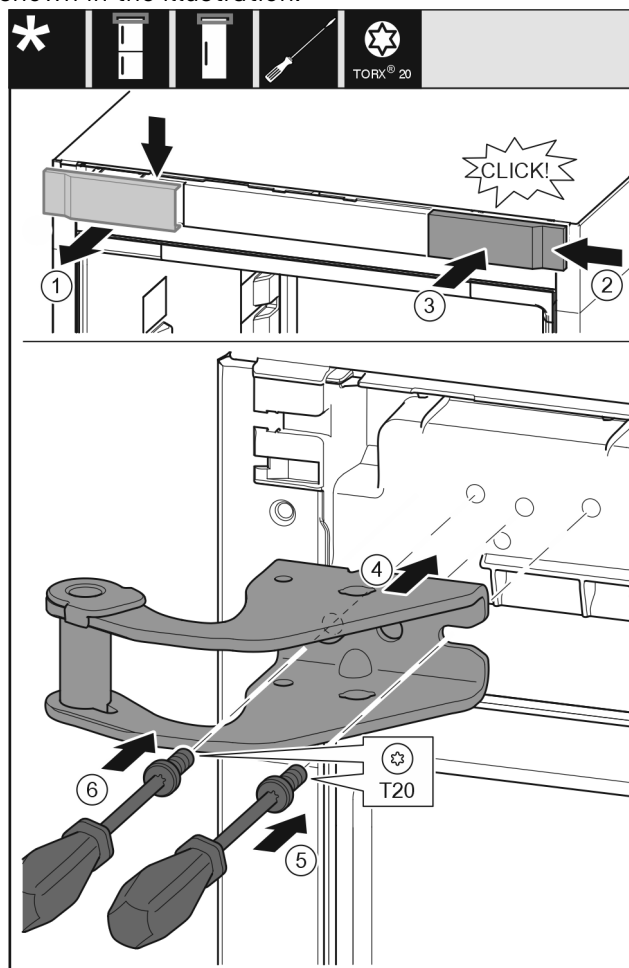

Fig. 31
- ▶ Remove the cover *Fig. 31 (1)* from the top towards the front.
- ▶ Hang the cover *Fig. 31 (2)* from the right turned by 180° to the other side.
- ▶ Snap in the cover *Fig. 31 (3)*.
- ▶ Attach the top swap bearing block *Fig. 31 (4)*.
- ▶ Attach and tighten the screw *Fig. 31 (5)* with a screw-driver.
- ▶ Attach and tighten the screw *Fig. 31 (6)* with a screw-driver.